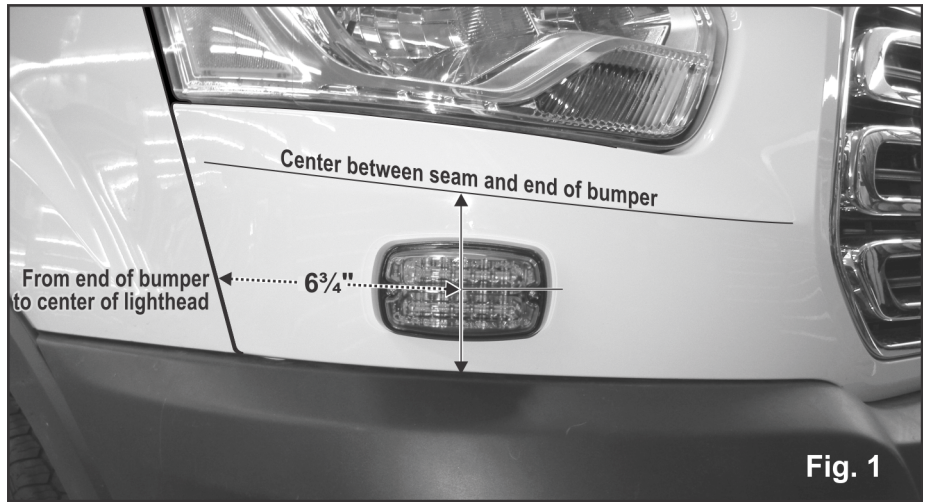

Fig. 1
1. Hold the housing up against the mounting surface (Fig. 1). Measure the distance shown and position the housing accordingly.